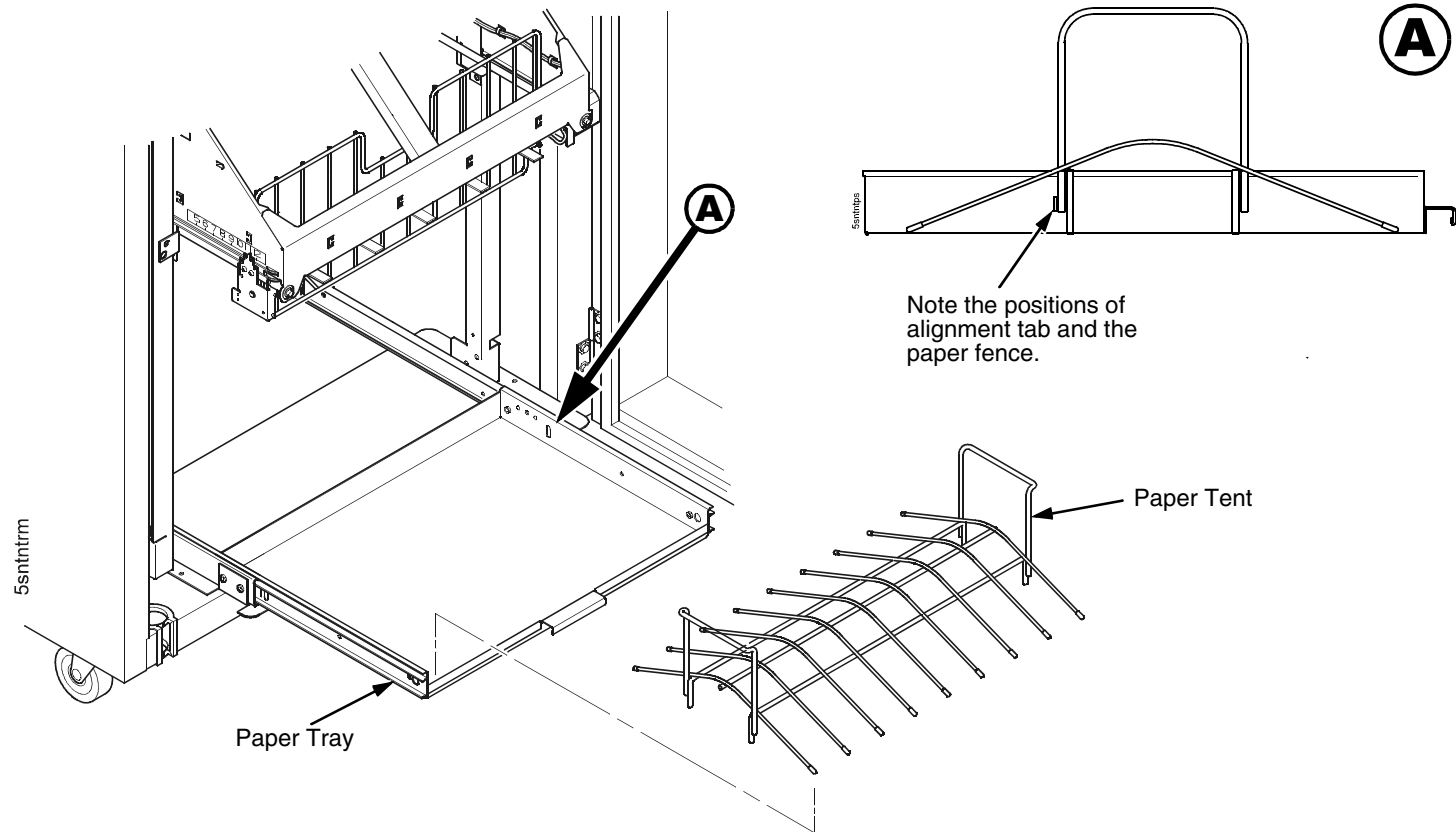

Figure 58. This figure shows how to install the paper tent in the paper tray.
5. If the paper you will use is not wider than 15.5 inches (39.5 cm) install the wireform paper tent in the pull out paper tray. (Figure 58.) If the paper is wider than 15.5 inches (39.5 cm) leave the paper tent out of the printer.